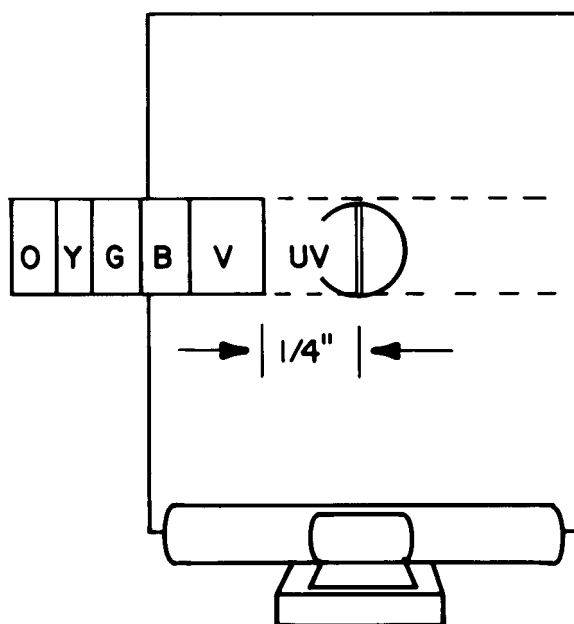

Figure 61.
and the ultraviolet-violet edge is about 0.25 in to the left of the slit (Figure 61).
7. Return the spectrum to its original position with the dial, so that the dial reads 000 and the spectrum is positioned as shown in Figure 61.